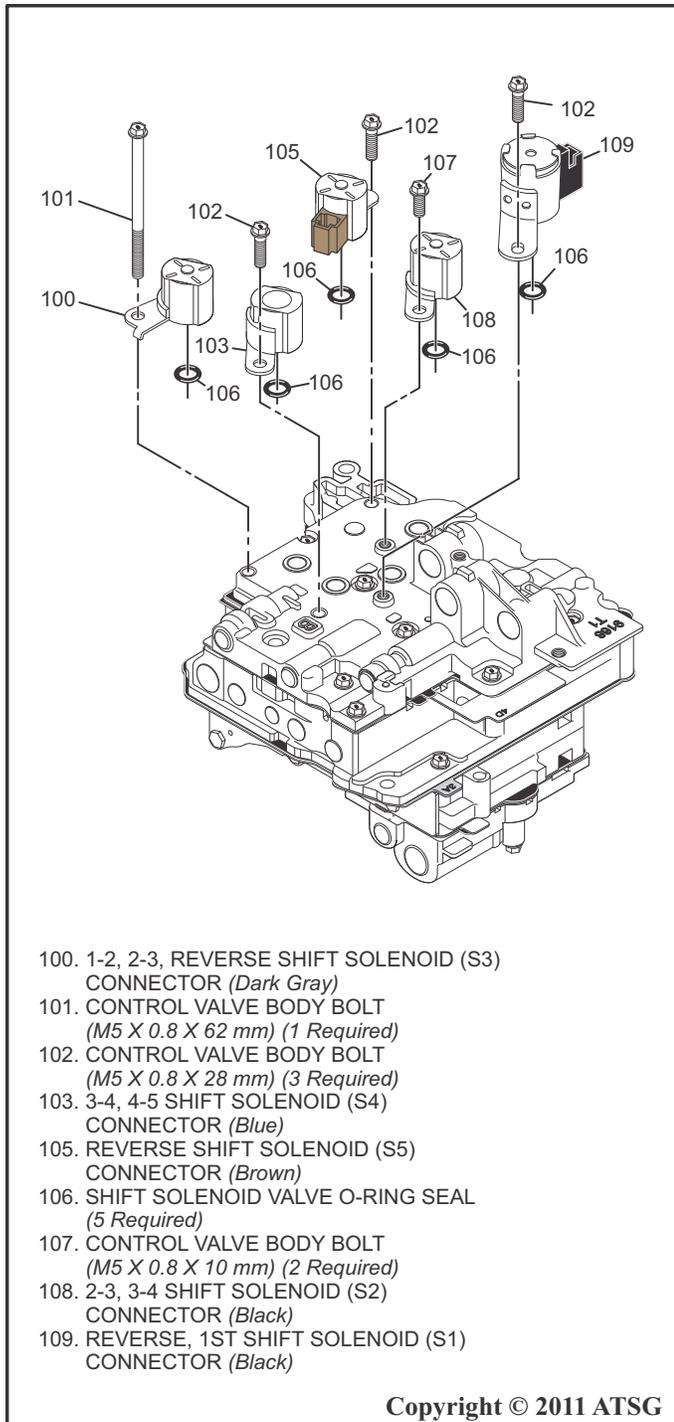

Figure 155
4. Remove the control valve body bolts using a 8 mm socket, then remove the five solenoids S1, S2, S3, S4, and S5 as shown in Figure 155.
5. Remove and discard the shift solenoid valve o-ring seals as shown in Figure 155.